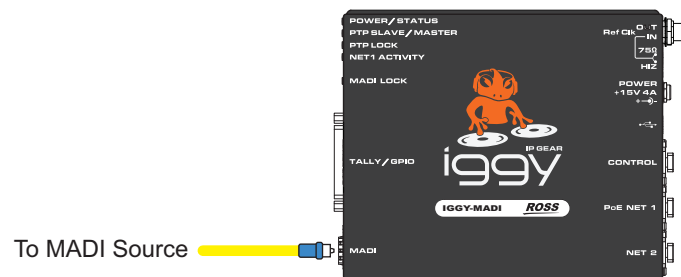

Figure 6.1 IGGY-MADI — MADI Port Connections
3. Cable your MADI module as required. (Figure 6.1)